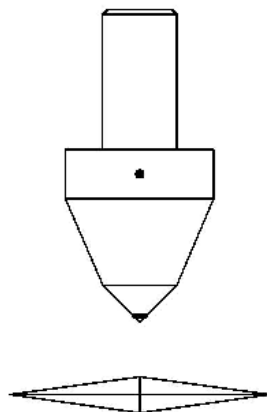

Fig.12
9.2.1 When replace on the Knoop indenter, the red point on outer cylinder of indenter should face to front direction (see Fig.12).